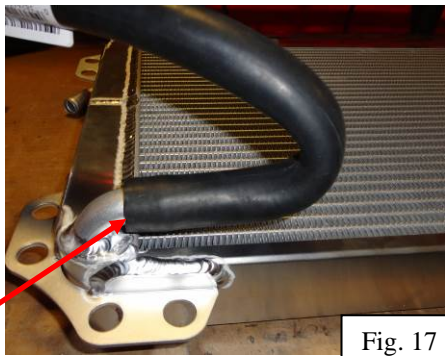
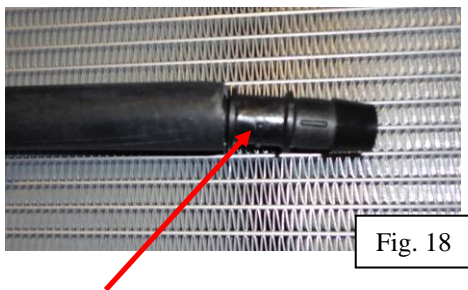

Fig. 17
Fig. 18
15. Attach the 300° molded hose to the inlet of the heat exchanger using the supplied hose clamp with a 5/16" nut driver (Fig. 17). The hose should be angled towards the passenger side of the truck. Attach the 3/4" to 5/8" plastic hose connector to the 300° molded hose and tighten the hose clamp (Fig. 18). Attach the 5/8" inlet hose to the 5/8" hose connector and tighten with a hose clamp.